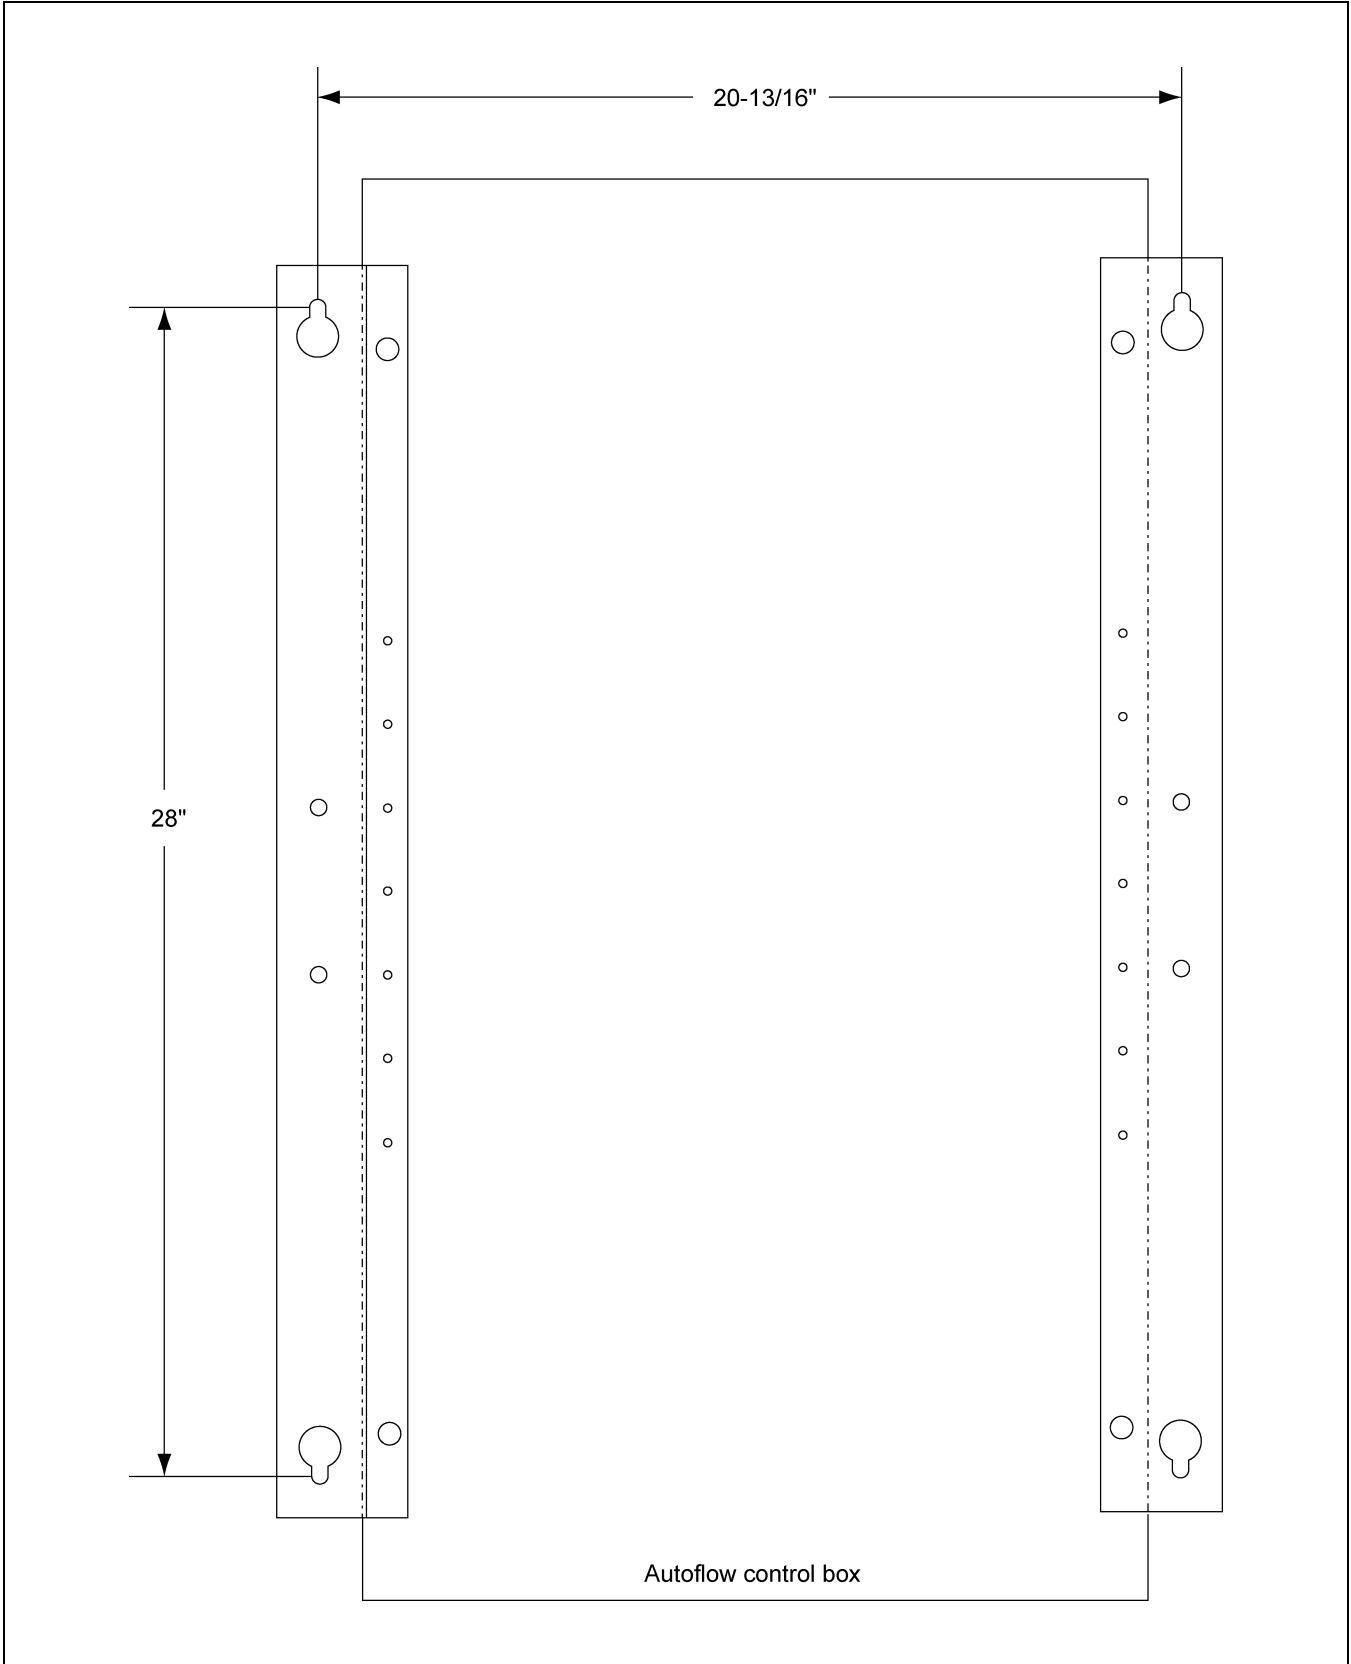

Figure 3C Illustration of the bolt pattern for the autoflow control box.
3. Use the hole pattern in Figure 3C on Page 12 to drill holes for mounting the Autoflow control box.